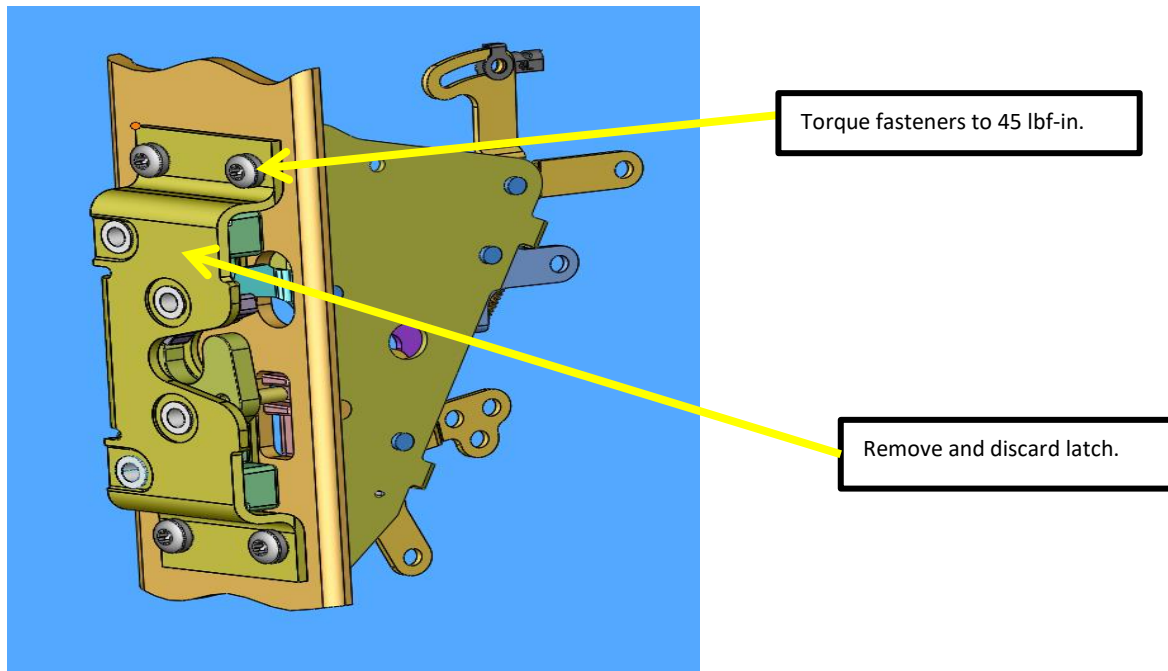

FIG. 11-1
10. Remove and discard the door latch and fasteners. NOTE: two fasteners toward outside of door utilize nuts to secure the latch to the door frame. Ensure these do not fall into the doorframe when removing or installing parts. Refer to FIG. 11-1.